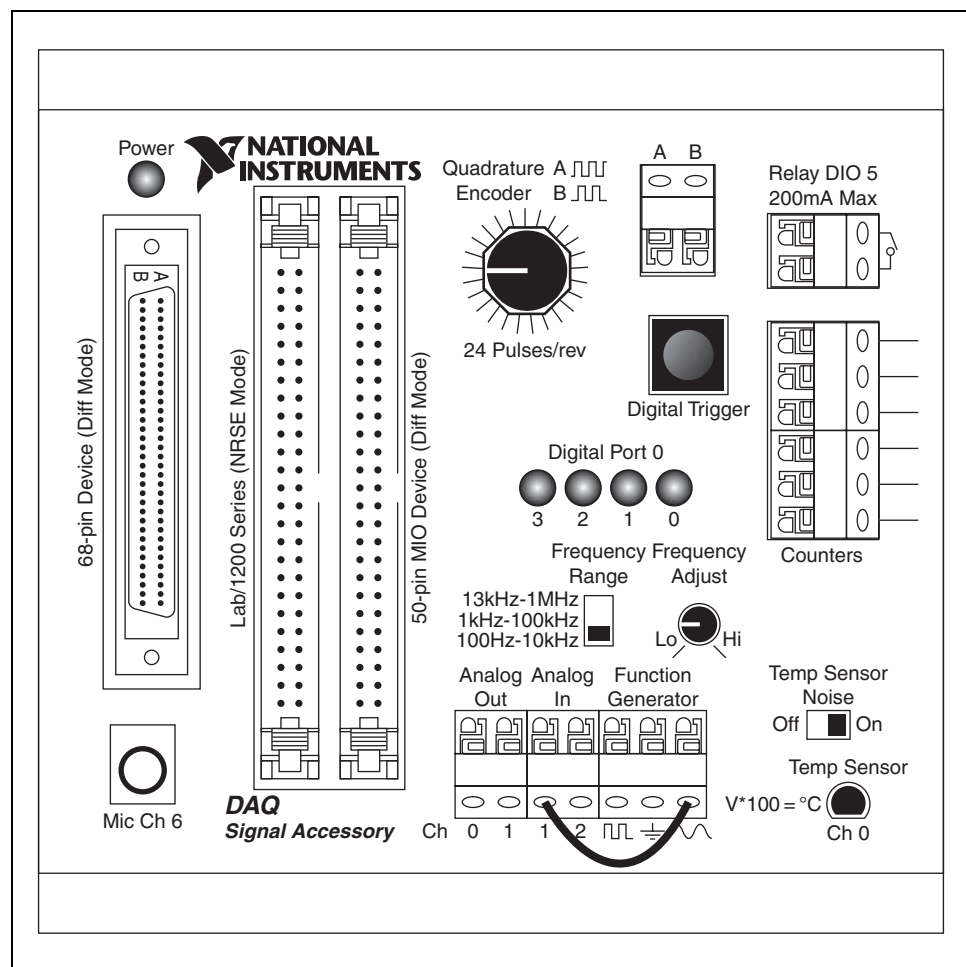

Figure 2-36. Connection for the DAQ Signal Accessory
- Using a wire, connect the Analog In Channel 1 to the Sine Function Generator, as shown in Figure 2-36.